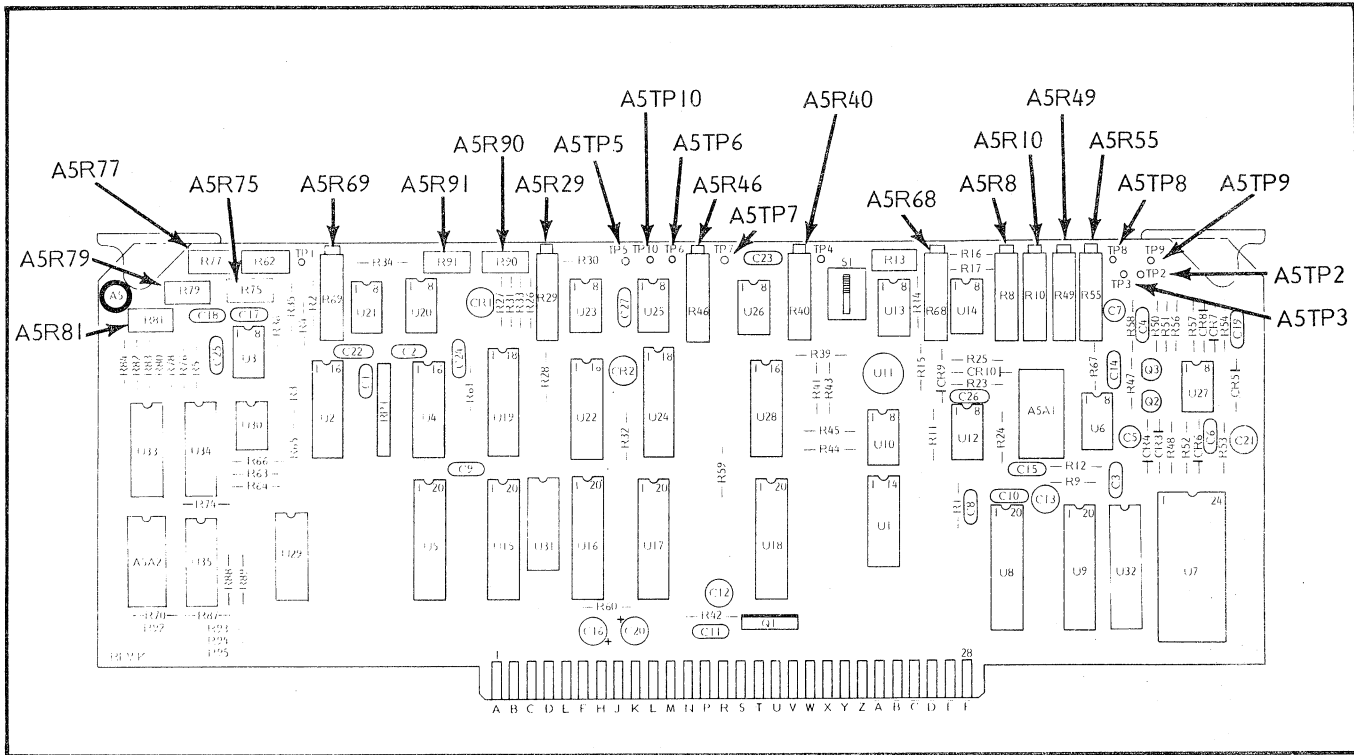

Figure 5-9. A5 Frequency Instruction Adjustments
3. Connect the common lead on the digital multimeter (DMM) to A5TP10 (Figure 5-9) and the test lead to A5TP9.